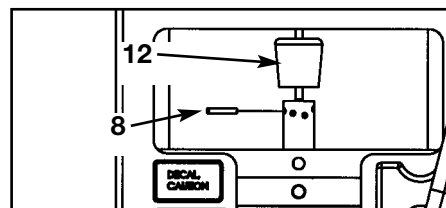

Figure 21
- F.** Slide rubber boot (#12) onto cable end. See Figure 21.
- G.** Insert cable end into top weight and align cable fitting opening with opening in top weight for proper cable tension as shown in Figure 21. See the Owner's Manual for proper cable adjustment.